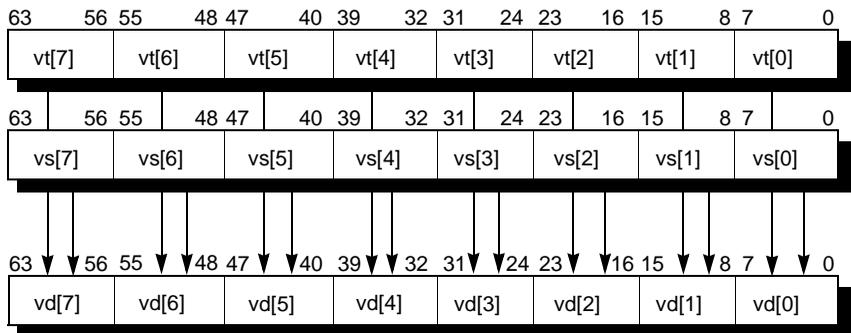

Figure 19-1 Vector-Vector Operation
- **Vector-Vector.** Each element of source vector vs is operated against the corresponding elements of source vector vt to produce destination vector vd , as shown in Figure 19-1.